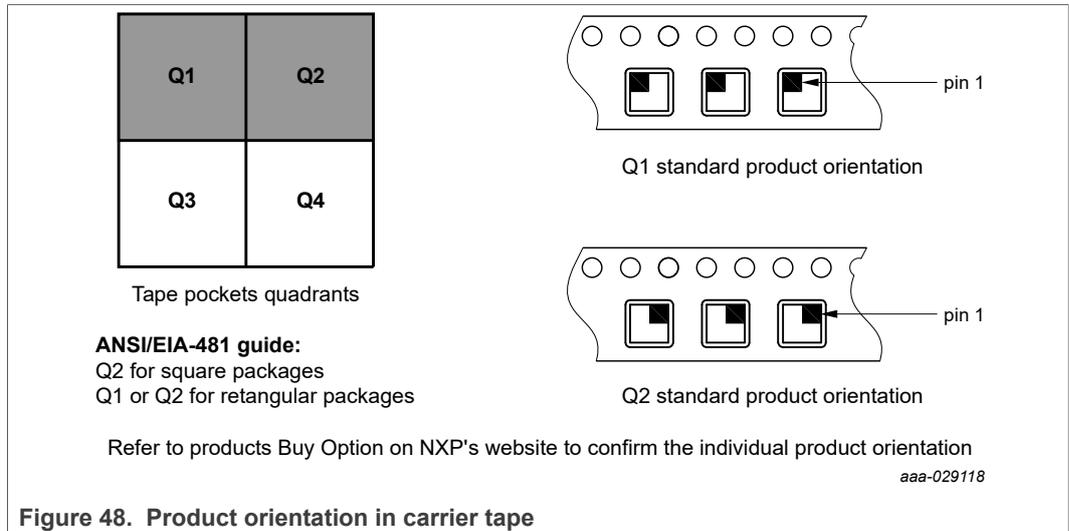

Figure 48. Product orientation in carrier tape
- The product pin 1 orientation in the carrier tape (Figure 48) follows the orientation guide of ANSI/EIA-481 standard, but exceptions are possible depending on the product characteristics. Refer to the Buy Options on NXP's website to confirm the individual product orientation.
| | | | Fig. 48. | Product orientation in carrier tape | 45 |